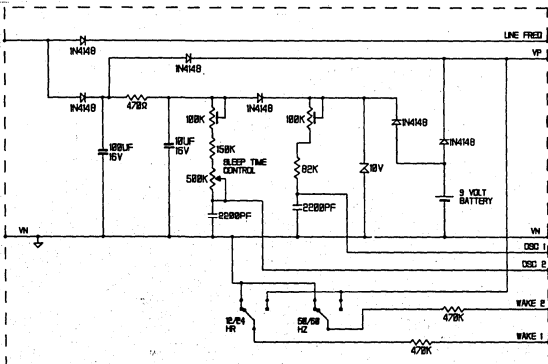

Fig.9 POWER SUPPLY INTERFACE WITH STANDBY OPTION
2. With battery standby facility Fig.9